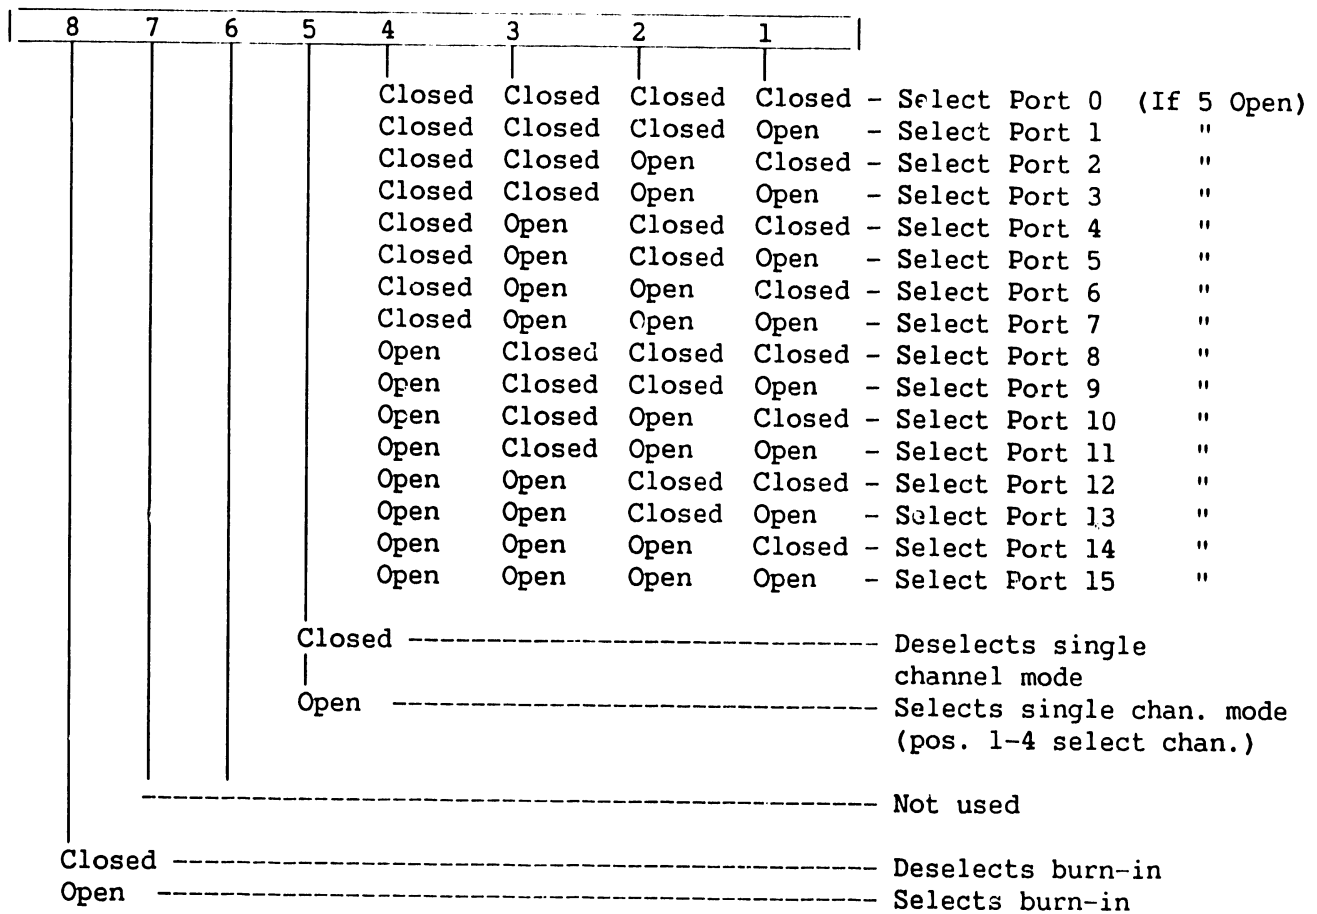

Figure 7-8. Multiline TC IOC 8-Position Diagnostic Switch
The Multiline Telecommunications (MLTC) board contains an 8-position switch (in addition to the 4-position diagnostic switch) which is used in conjunction with the BIT. All positions of the 8-position switch must be closed (ON) to execute normal BIT routines. Refer to figure 7-8.